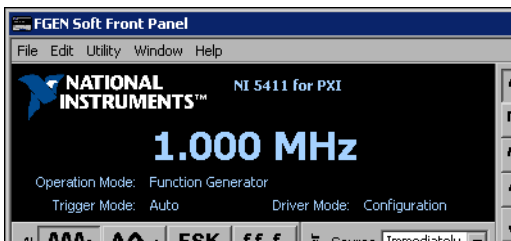

Figure 9. FGEN SFP Display with the NI PXI-5411 Selected
4. Verify that the module you installed appears on the FGEN SFP display, as shown in Figure 9.